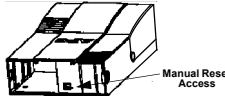

Figure 12. Manual Reset Access
11. To reset the Back-UPS HS to factory default values, use the UPS Settings button. If the Back-UPS HS does not reset using the software, remove the Battery Cover and insert a small object (about 2 inches in length) into the hole located next to the telephone jack (Figure 12) for approximately 5 seconds. Note: The telephone jack is provided for factory testing only - do not connect anything to this jack.